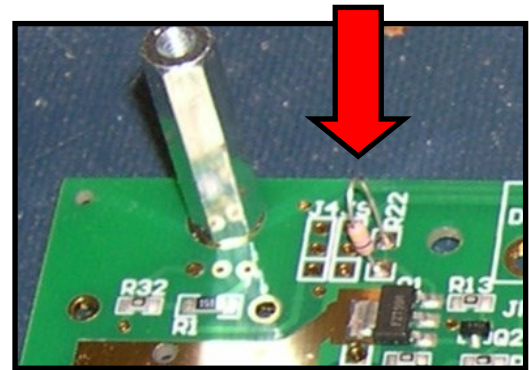

Figure 4a. R22—The LCD Back Light Resistor
- Time to install R22 (Figure 4a), The LCD back light current set resistor.